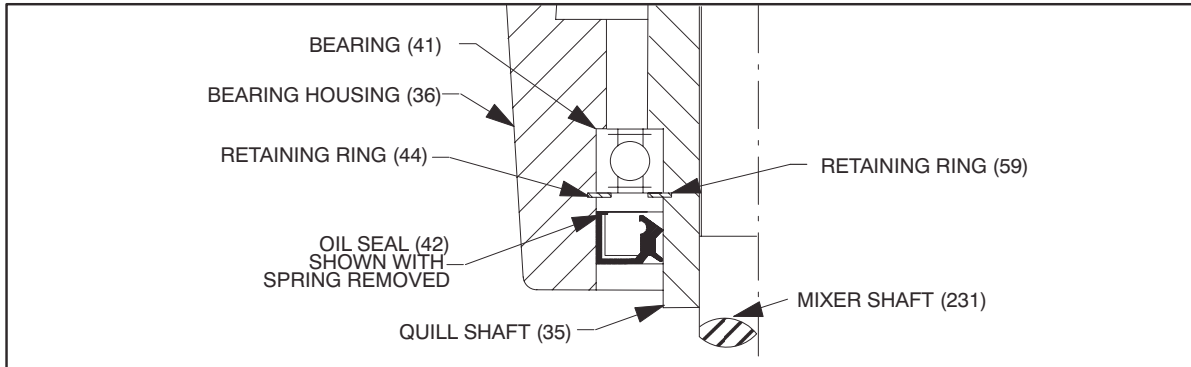

FIGURE 3 – Oil Seal Installation
- b . Install oil seal with lip facing up as shown in Figure 3.
- a . Insert the set screw (58) into the drive quill (35) until it is flush with the bore of the quill.
- b . Press the lower bearing (41) onto the drive quill (35) bearing journal. The bearing must seat against the drive quill shaft shoulder with no visible gap.
- c . Install the lower external retaining ring (59).
- a . Mount the housing (36) in an arbor press, large end up.
- b . Press the upper oil seal (38), sealing lip upward, to the shoulder in the housing bore and lubricate the seal lip.
- c . Press the upper bearing (41) to the shoulder in the housing bore.
- d . Invert the housing, large end down. Using a sleeve type fixture that supports the upper bearing by the inner race with clearance that allows the quill to be pressed thru, press the drive quill assembly into the bearing housing (36) from the bottom until the bearing seats on the housing shoulder.
- e . Install lower retaining ring (44).
- f . Press oil seal (42) in place as shown in Figure 3. Make sure the oil seal has the internal spring removed. This is a non-lubricated seal, and will run hot and have a shortened life if the spring is not removed.
- g . Turn the bearing housing over and install the upper retaining ring (59).
- h . Support the bearing housing assembly in an upright position and press the drive quill downward until the retaining ring (59) shoulders on the upper bearing (41). This will relieve any locked in axial load on the bearing created during assembly.